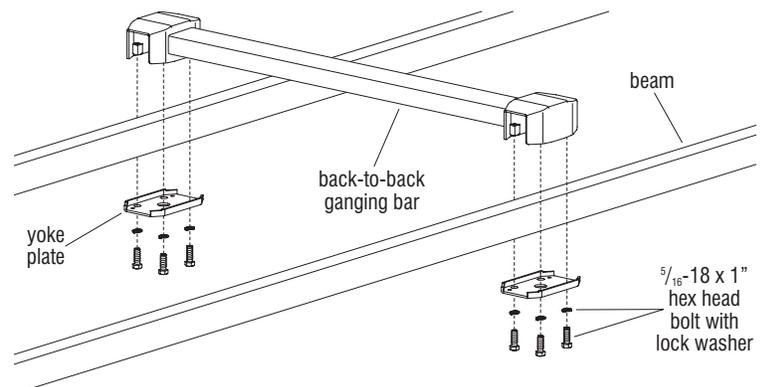

Figure 5
23. Place the back-to-back ganging bar over the beams to be joined as illustrated (Figure 5).
24. Position a yoke plate under the opening at each end of the ganging bar as illustrated. Secure from underneath with four $\frac{5}{16}$ -18 x 1" hex head bolts and lock washers. Torque bolts to 21 ft/lb in a diagonal pattern (Figure 5).